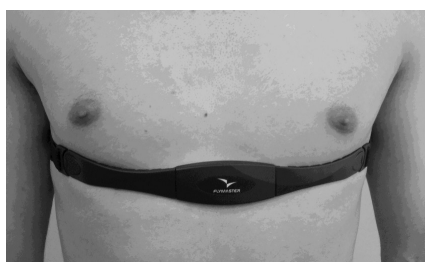

Figure 2 Heart-G Position
- The electrodes (one in each tip of the chest strap) should be press firmly against your skin and the Flymaster logo should facing right way up and located in the center of your sternum. (see Figure 2 Heart-G Position). This is important because your heart is not centered but on the left side the HEART-G will not be as efficient in detecting the heart beat if it is with the logo upside down.